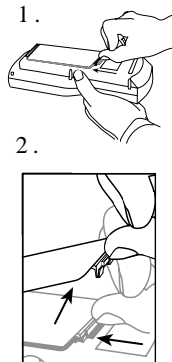

Figure 2-4. Battery Replacement.
1. Remove the battery-compartment cover on the back (refer to Figure 2-4) by pushing the tab in and then up.